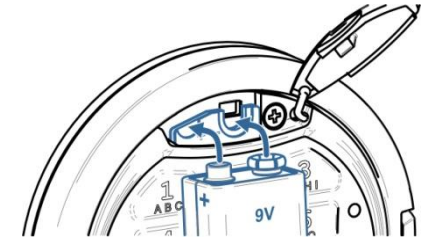

Fig. 5.3
- Press the new battery to emergency power pins and fix it in this position (see Fig. 5.3).